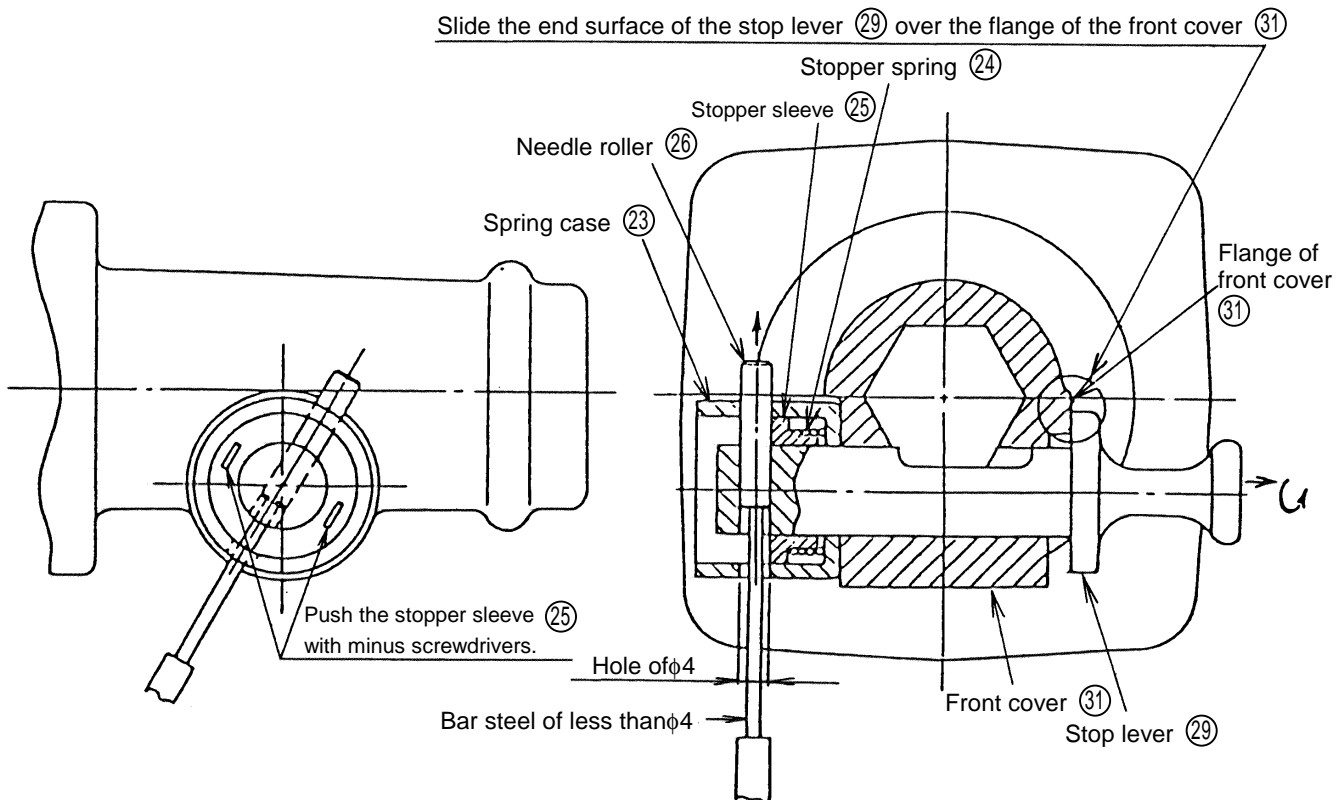

Fig. 7
As shown in Fig. 7, mount the stop lever end surface on the flange of the front cover ⑳ and push the stopper washer ㉕ with the minus screwdrivers to contact the stopper spring ㉔. Adjust the holes of the stop lever and spring case ㉓, and insert the needle roller ㉖.